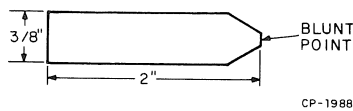

Figure 5-48 Capstan Motor Shim
14. Cut one piece of each type of shim stock as indicated in Figure 5-48. Exact dimensions of shim stock are not critical; main thing is to have a manageable size to use as a feeler gauge. The blunt point shown in Figure 5-48 also minimizes curling of the end which will be used.